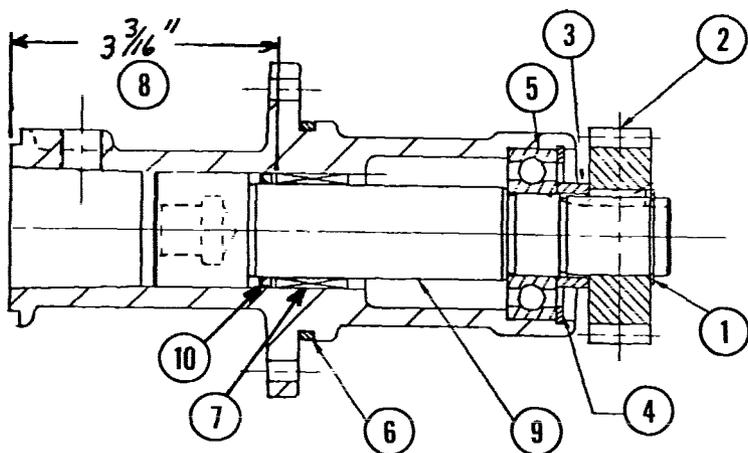

Fig. 2-51
Remove the retaining ring (1, Fig. 2-51), gear (2, Fig. 2-51) and spacer (3, Fig. 2-51).
- (2) Remove the retaining ring (4, Fig. 2-51) and drive the attachment hub shaft out the front of the assembly.
- (3) Remove the bearing (5, Fig. 2-51) out the rear of the assembly.
- (4) Remove the "O" ring (6, Fig. 2-51).
- (5) Remove the oil seal (10, Fig. 2-51).
- (6) If the powdered metal bearing (7, Fig. 2-51) has been damaged, use a hammer and punch to remove.
- (1) Lightly oil the bore of the attachment hub and the outside of the powdered metal bearing. Use the shaft (9, Fig. 2-51) as a driver and seat the bearing in the hub to a depth of 3-3/16" (8, Fig. 2-51).
- (2) Install the oil seal (10, Fig. 2-51) and seat against the bearing. Use the shaft to seat the seal.
- (3) Install the shaft (9, Fig. 2-51) in the hub from the front.
- (4) Block the shaft. Install the bearing (5, Fig. 2-51) in the recess of the attachment hub.
- (5) Install the retaining ring (4, Fig. 2-51) and gear spacer (3, Fig. 2-51).
- (6) Install the key and attachment hub gear (2, Fig. 2-51).
- (7) Install the retaining ring.
- (8) Install the "O" ring (6, Fig. 2-51).